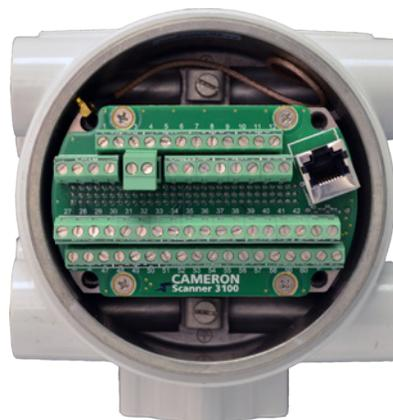

Figure 4.6—Rear view of Scanner 3100 showing terminal board
- d. Remove the rear lid of the Scanner 3100 enclosure to access the terminal board (Figure 4.6).